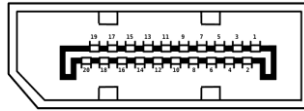

Figure 3-28: External DisplayPort Connector Location
- CN Location:** See Figure 3-28